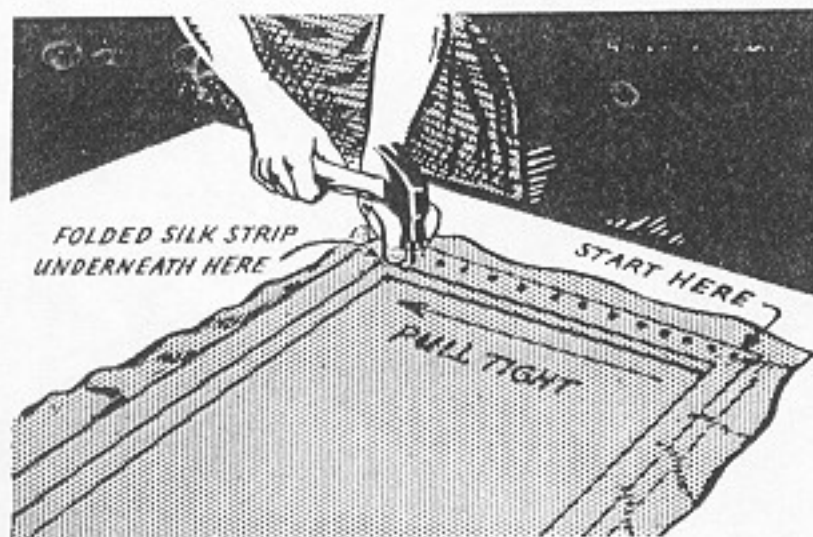

Fig. 31. Tack Silk to First End
2. Tack the sheet of silk at one corner of the frame. Stretch the silk along one of the short sides and tack it, Fig. 31.